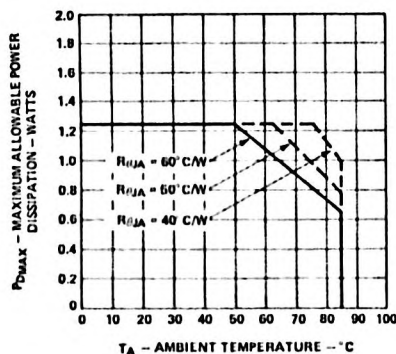

Figure 2. Maximum Allowable Power
- The device should be derated linearly above 50°C at 16.7 mW/°C. This derating is based on a device mounted in a socket having a thermal resistance from case to ambient at 35° C/W per device. See Figure 2 for power deratings based on a lower thermal resistances.